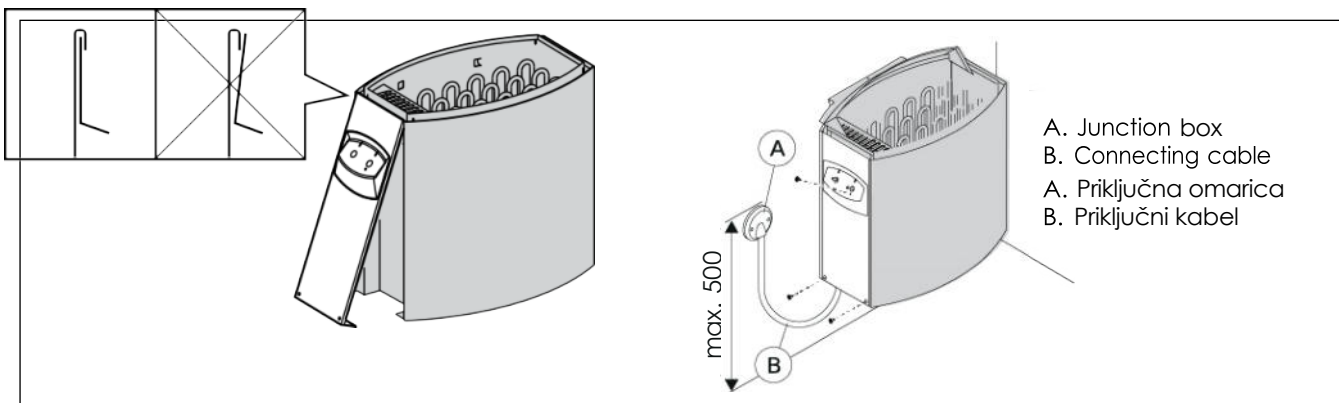

Figure 8. Closing the cover of the connection box (all dimensions in millimeters)
- The heater is semi-stationarily connected to the junction box (figure 8: A) on the sauna wall. The junction box must be splash-proof, and its maximum height from the floor must not exceed 500 mm.
- The connecting cable (figure 8: B) must be of rubber cable type H07RN-F or its equivalent. **notE! Due to thermal embrittlement, the use of PVC-insulated wire as the connecting cable of the heater is forbidden.**
- **When closing the cover of the connection box make sure that the upper edge of the cover is placed correctly.** If the upper edge is misplaced water can enter the connection box. Figure 8.